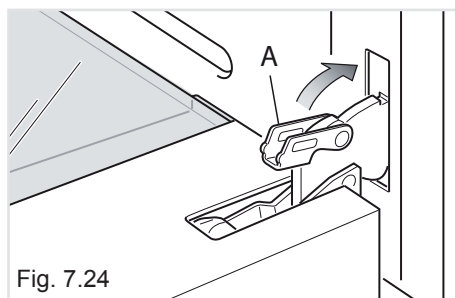

Fig. 7.24
4. Unlock the oven door by opening it completely and closing the lever "A" on the left and right hinges (fig. 7.24).